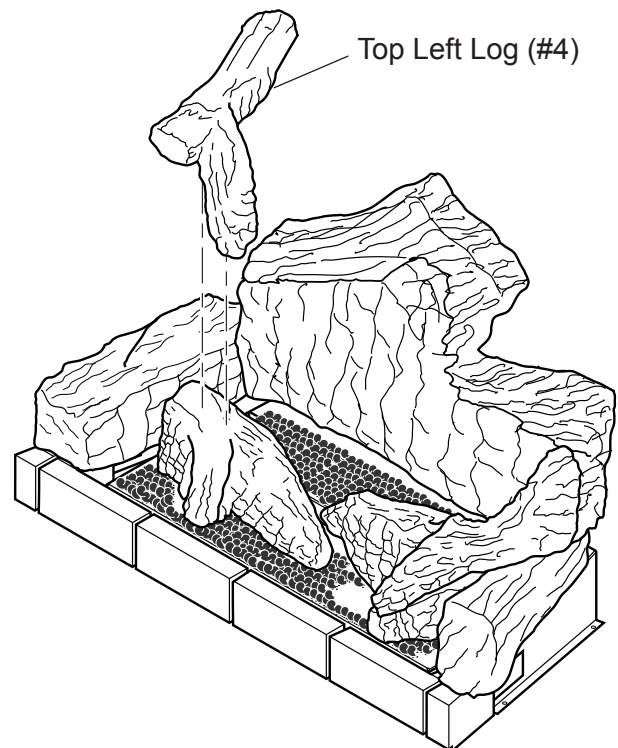

Figure 54 - Installing Top Left Log (#4)
10. Place top left log (#4) on top of left mid log and top of bottom left log. *See Figure 54.*